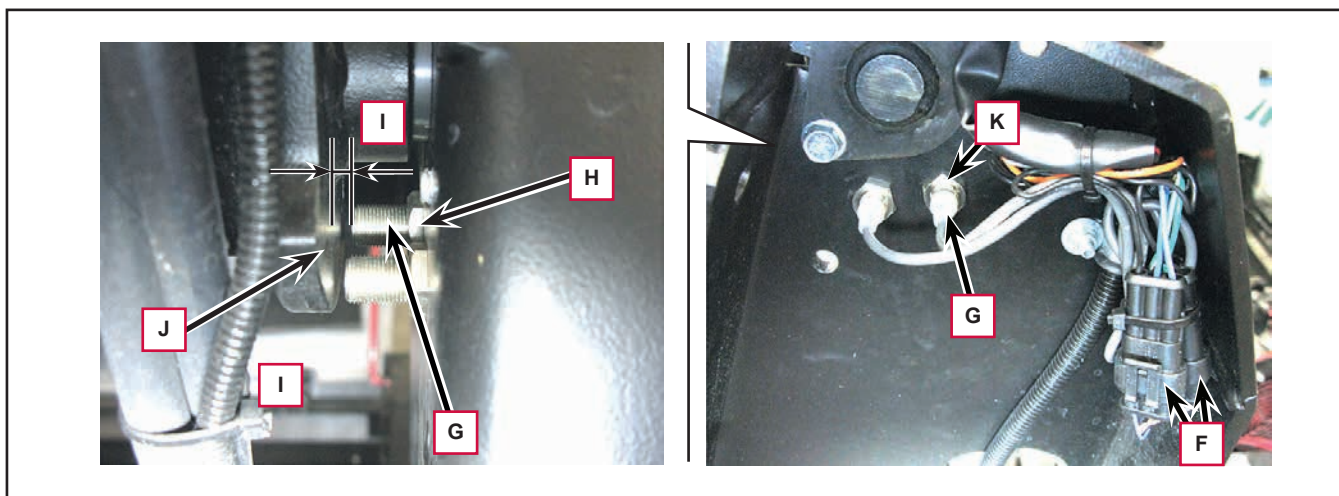

Figure 7
8. Free up and disconnect the electrical connection (F, Figure 7) of the hopper closed sensor (G).
9. Unscrew the nut (H) and remove the sensor (G) with wiring.